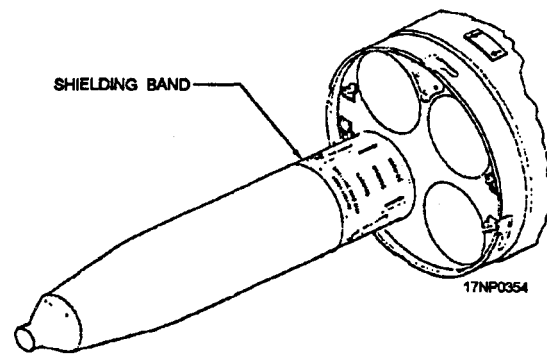

Figure 13-24.—5.0-inch rocket RADHAZ and electrostatic protection.
3. Slide shielding band (fig. 13-24) over motor and hold against forward part of launcher; push motor forward until locking tabs seat in the motor detent grooves and not in the contact band groove.